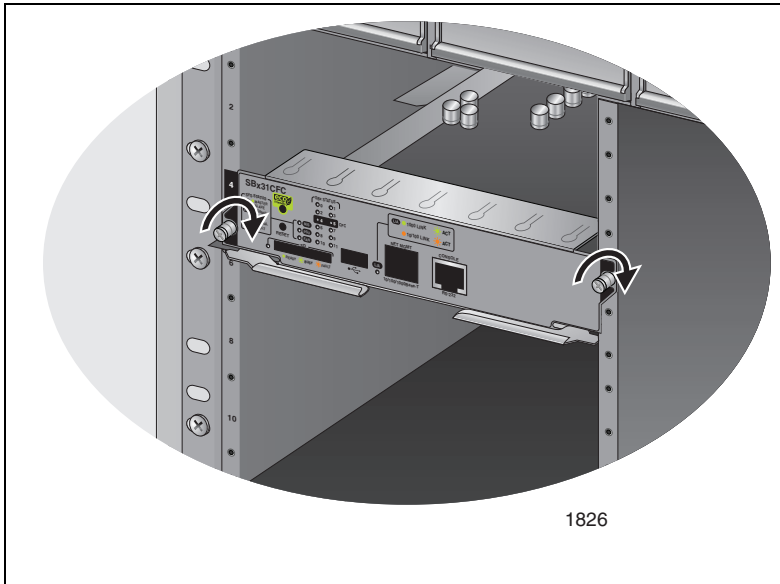

Figure 45. Tightening Thumb Screws on the AT-SBx31CFC Card
9. Finger tighten the two thumbscrews on each side of the card as displayed in Figure 45 to attach it to the front mounting rails of the chassis.